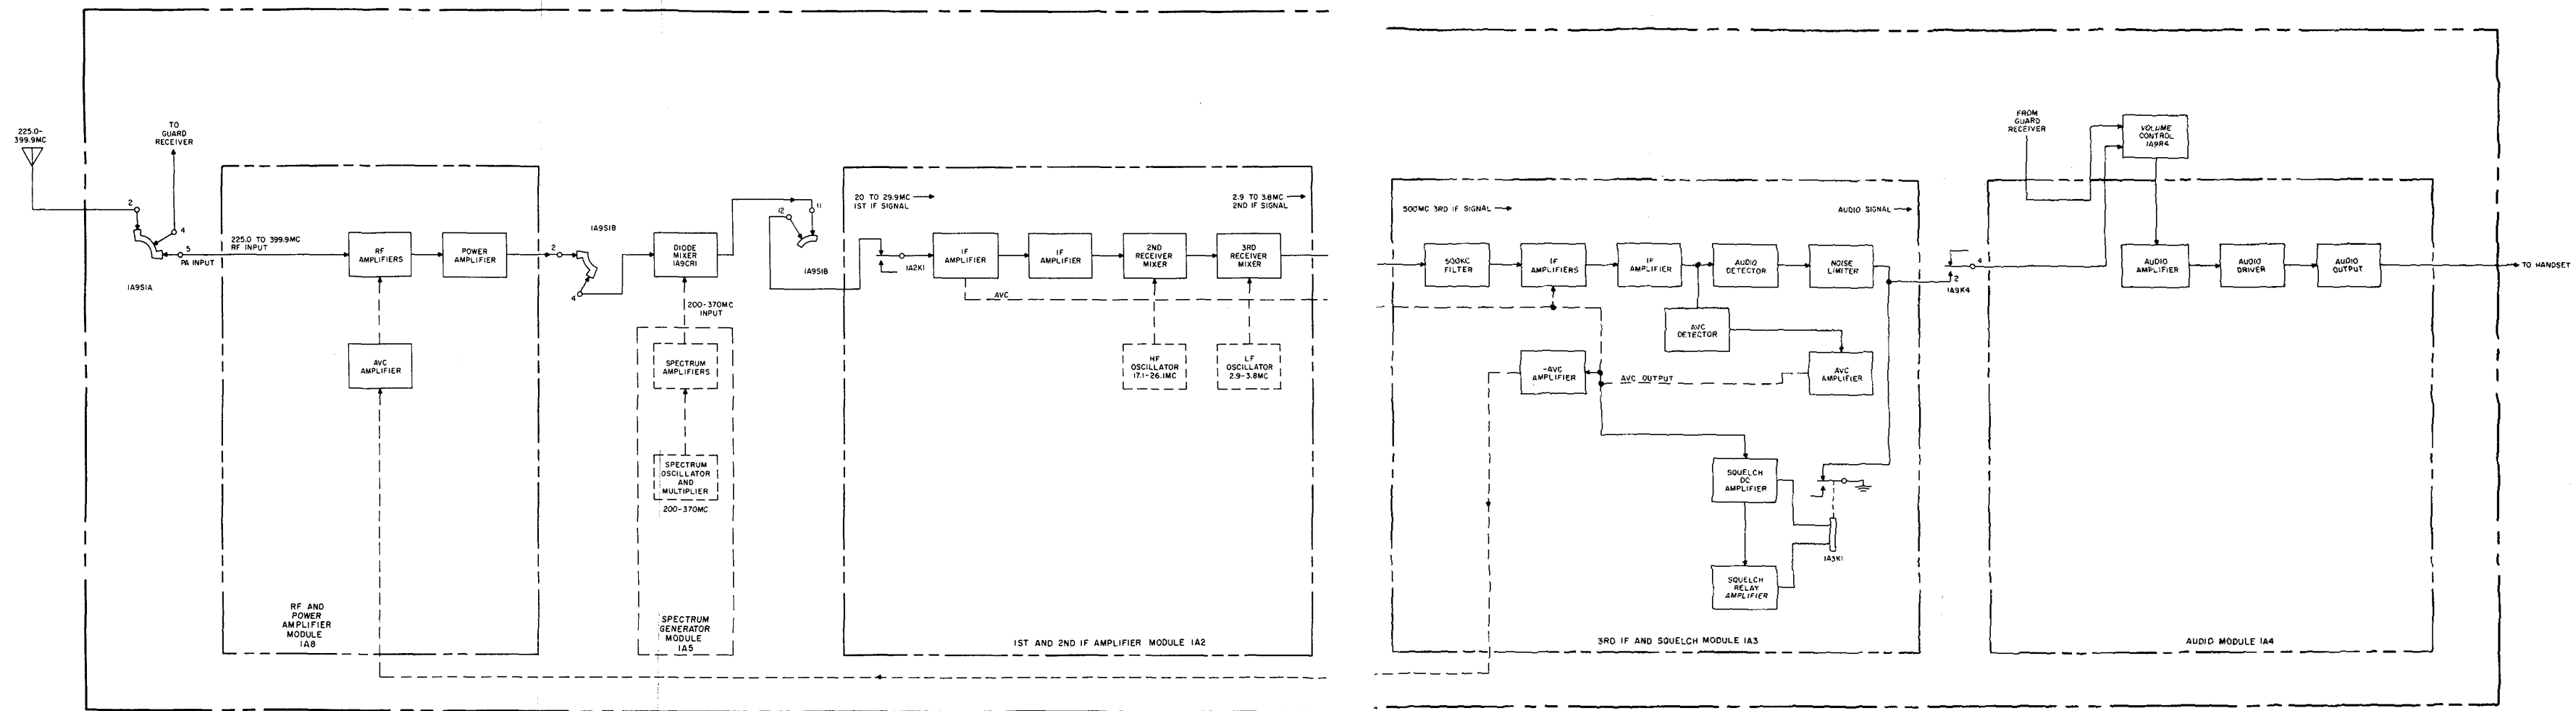

Figure 4-4. Radio Receiver-Transmitter RT-695/PRC-41,
(1) FUNCTIONAL DESCRIPTION. - The main receiver functional section is composed of the circuits of the r-f and power amplifier, 1st and 2nd i-f amplifier, 3rd i-f and squelch, and audio modules along with the switching and interwiring of the main chassis. The discussion of the circuits of the main receiver functional section is presented by module in the order of signal flow. Refer to the main receiver functional section block diagram, figure 4-4, as an aid in understanding the theory of operation of the main receiver functional section. A signal in the 225.0- to 399.9-mc range appearing on either Antenna AS-1404/PRC-41 or Antenna AS-1405/PRC-41 is fed through antenna connector 1A9J28(A45) to contact 2 of receive-transmit switch 1A9S1A and fed to the input of the r-f and power amplifier module.